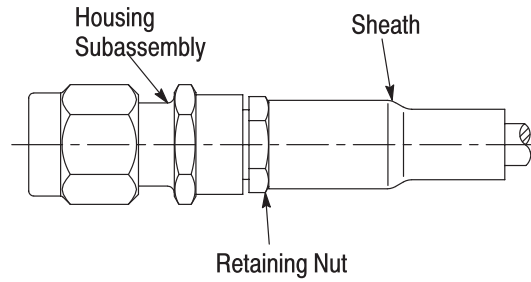

Figure 5
3. Position the heat-shrink sheath over the the outer sleeve (ferrule) as shown in Figure 5.